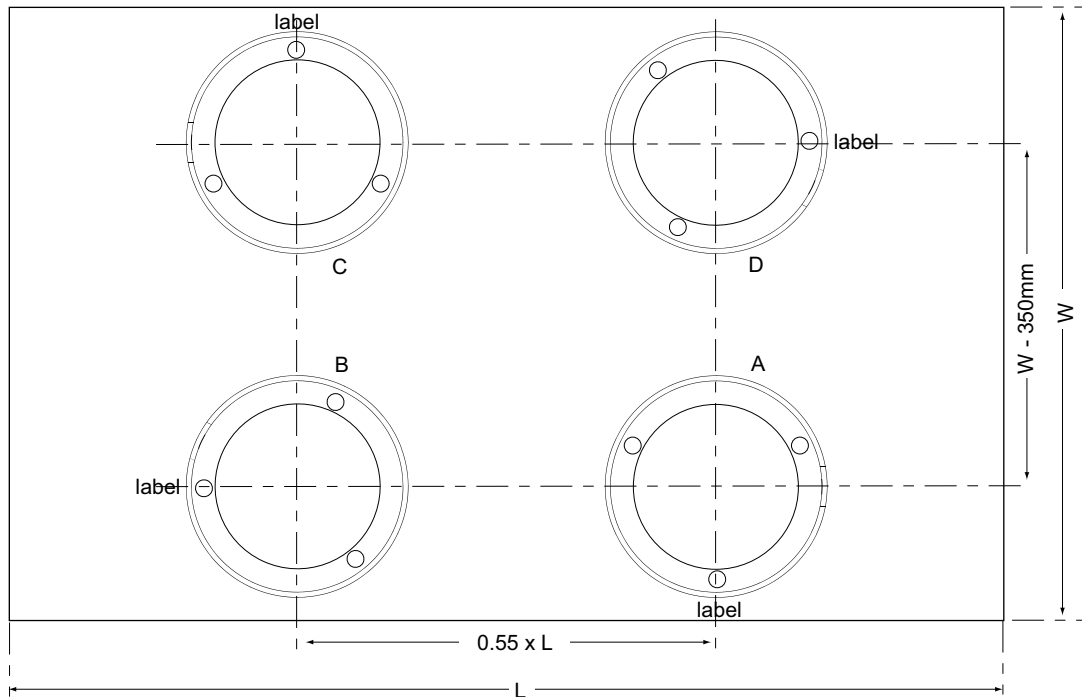

Fig. 4.2 Support positions
- 2) Position the supports in approximately the correct position for the table – see Fig. 4.2 for dimensions. Note the position of the Thorlabs labels and orientate the supports as shown. Remove the lifting handles.